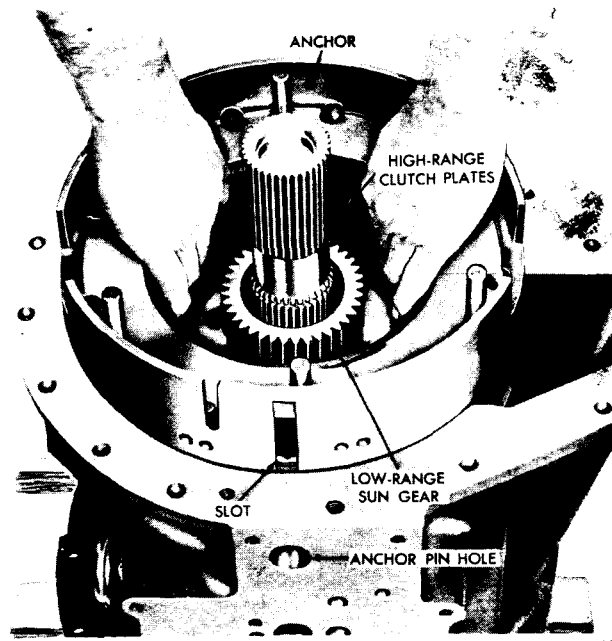

Fig. VII-17. Installing (or removing) high-low-range clutch anchor assembly
(1) Install the low-range sun gear (fig. VII-17). On later CRT 3331 models, the sun gear is installed with the high-range carrier. (Refer to para 6-22.)
(2) Install the high- and low-range clutch anchor assembly, aligning the anchor
slot with the anchor pin hole in the housing (fig. VII-17).